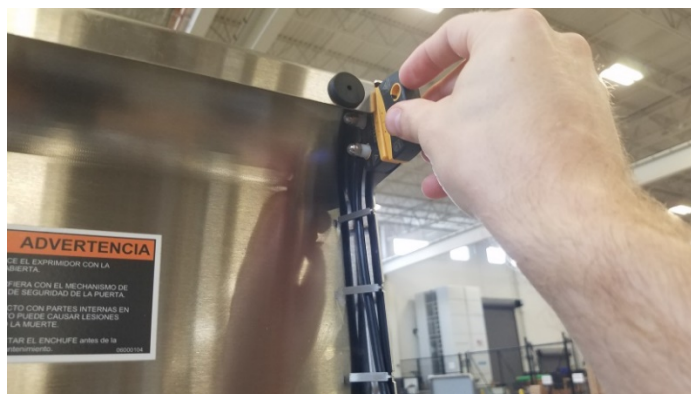

Figure 78. Magnet Positioning
19. Align the magnet with the sensor in the top corner of the hopper's lid. The magnets are not coded and work for either sensor. **Refer to Figure 78.**